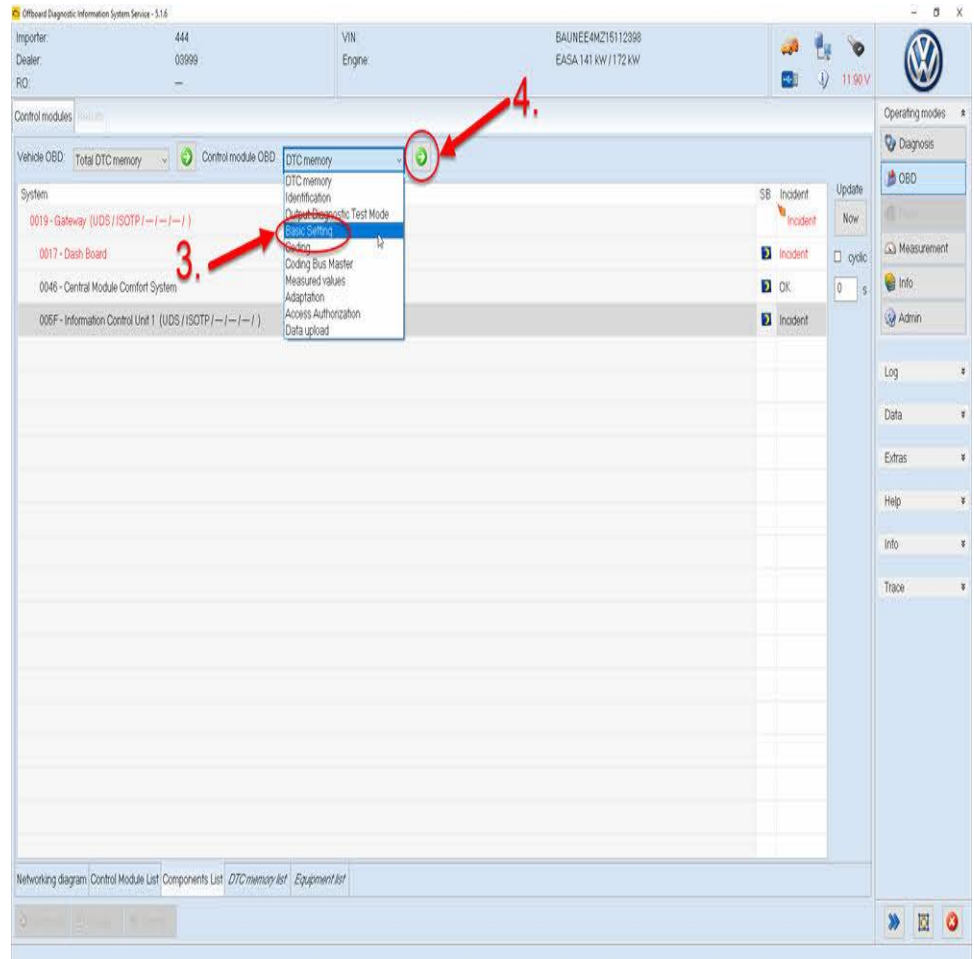

Figure 3. Select the basic settings.
2. In the drop-down menu “Control module OBD”, select “Basic Settings” (3), then click on the arrow to the right (4) (Figure 3).